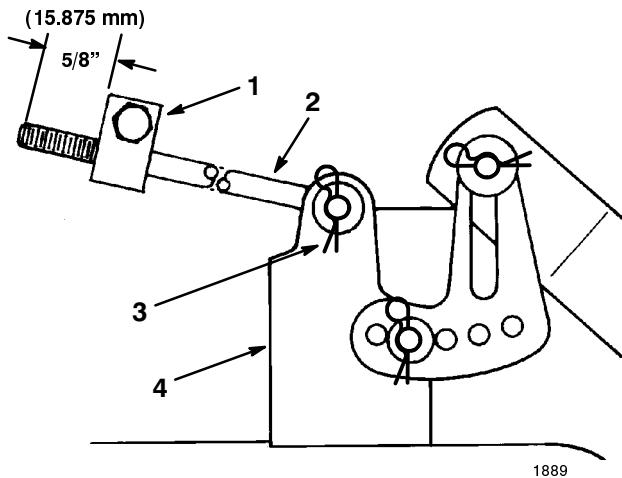

Figure 48
5. Measure the length of the rod extending out the front of the adjusting block on the sides of the chassis (Fig. 48). If the rod length is not $5/8$ ” (15.9 mm), remove the hair pin cotter and washer from the end of the rod (Fig. 48), and turn the rod until the $5/8$ ” (15.9 mm) dimension is obtained. Then install the end of the rod into the hole in the mower mount and secure in place with washer and hair pin cotter. Repeat this procedure on the opposite side of the mower.